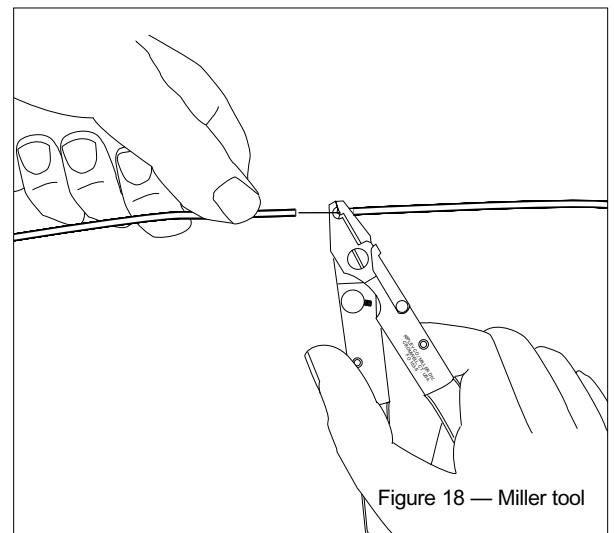

Figure 18 — Miller tool
Step 7: Using the Miller tool, score the tight-buffered fiber at the desired strip location (Figure 18).